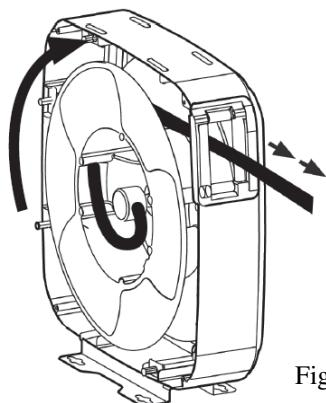

Fig. 11
1. Disassemble one side of the hose reel and pull out the hose 3m (10 feet) and let the hose get latched (Fig. 11).
1. Disassemble one side of the hose reel and pull the hose out 3m (10 feet) and let the hose get latched (Fig. 11).
1. Demontera ena sidan på slangrullen och dra ut 3 m av slangen och spärra rullen (Fig. 11).